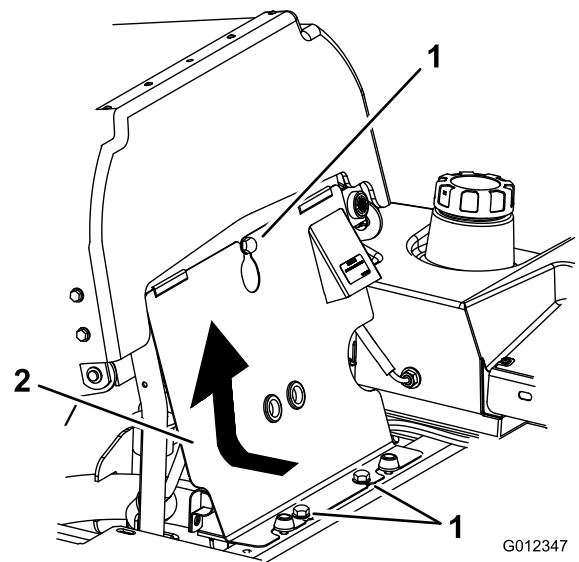

Figure 48
1. Tilt the seat forward, loosen the bolts, and remove the front engine panel (Figure 48).